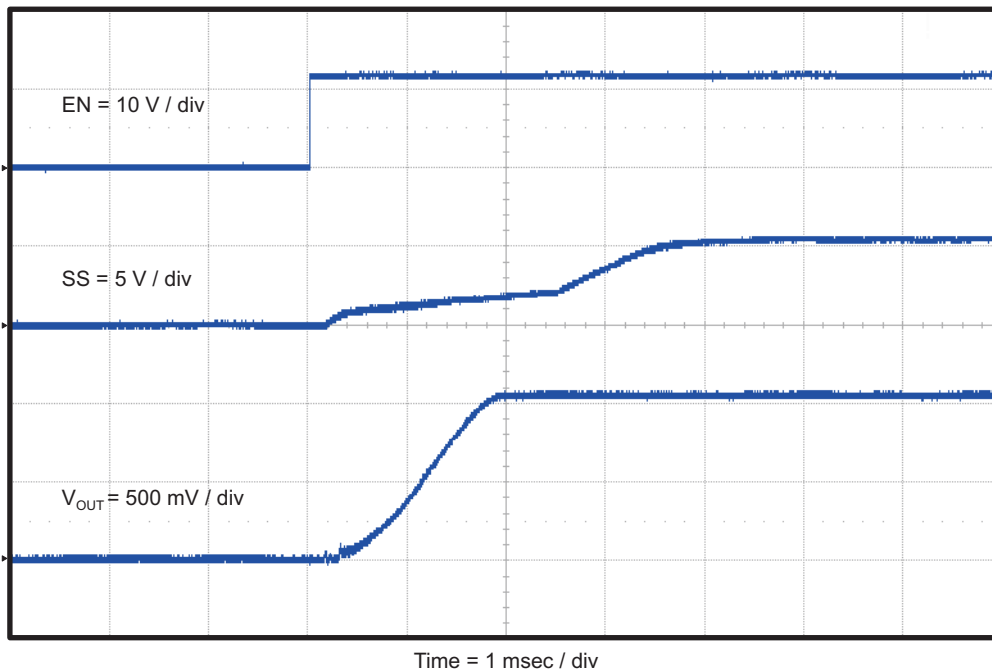
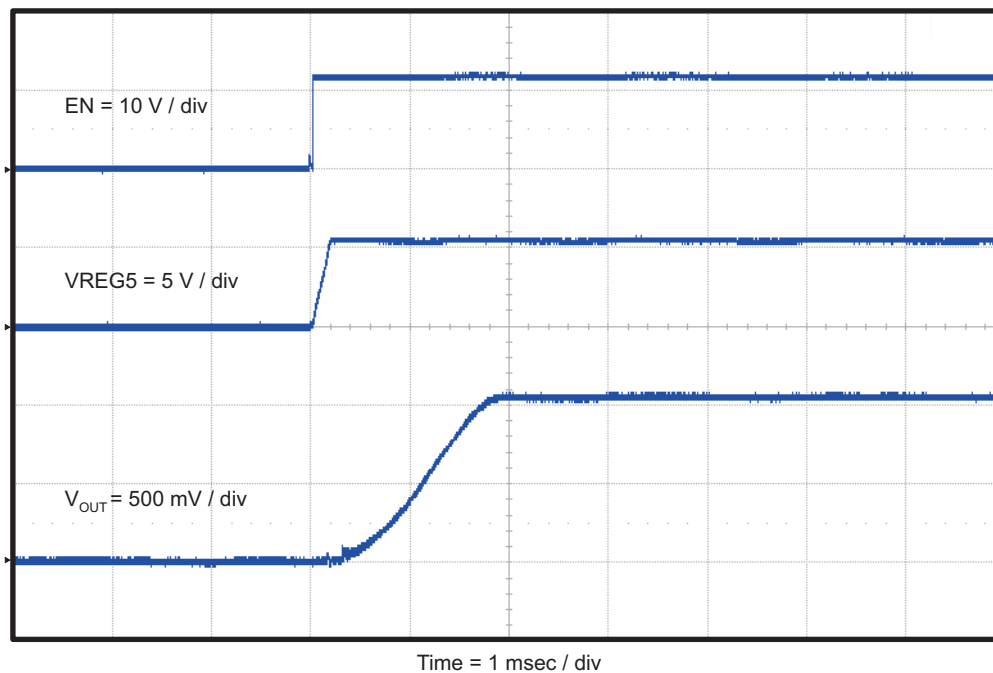

Figure 10. TPS54527EVM-052 Start-Up Relative to EN With SS
Figure 11. TPS54527EVM-052 Start-Up Relative to EN With VREG5
The TPS54527EVM-052 start-up waveforms relative to enable (EN) are shown in Figure 10 and Figure 11.